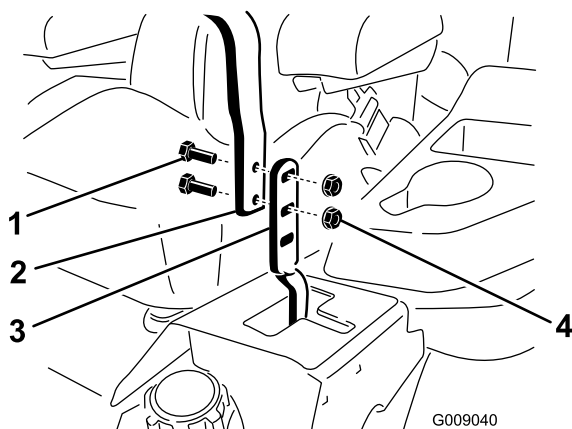

Figure 77
3. Loosen the bolts and flange nuts installed in the levers (Figure 77).